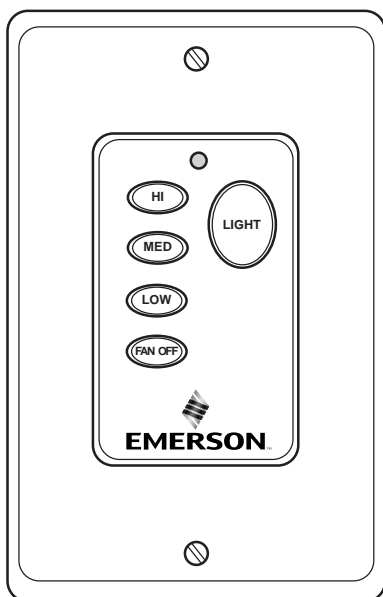

Figure 15
Your Fan/Light Wall Control (Figure 15) has full control of your fan and lights. However, airflow direction is controlled by a slide switch on the switch housing.
- 2. To set the desired fan speed, press the HI, MED, or LOW buttons to operate your fan on high, medium, or low speed (Figure 15).